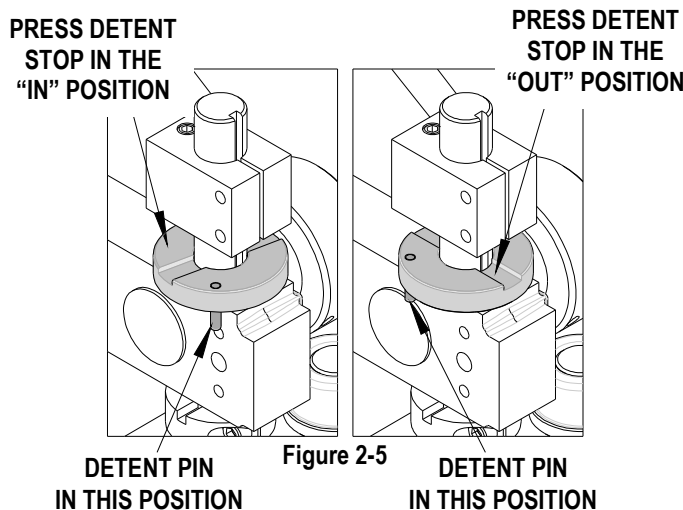

Figure 2-5
6. Rotate the Press Detent Stop to the "OUT" position. See Figure 2-5. **(The groove in the stop must be in-line with the stop screw in the press ram.)**
10. The Press Detent Stop should remain in the "OUT" position. See Figure 2-5.
Note: For the first termination the Press Detent Stop must be in the OUT position before the ram is lowered. See Figure 2-5.
9. **Rotate the Press Detent Stop to the IN position (the raised area of the stop must be under the stop screw in the press ram).** See Figure 2-5.
NOTE: The Press Detent Stop must be at the IN position before lowering the ram. See Figure 2-5.